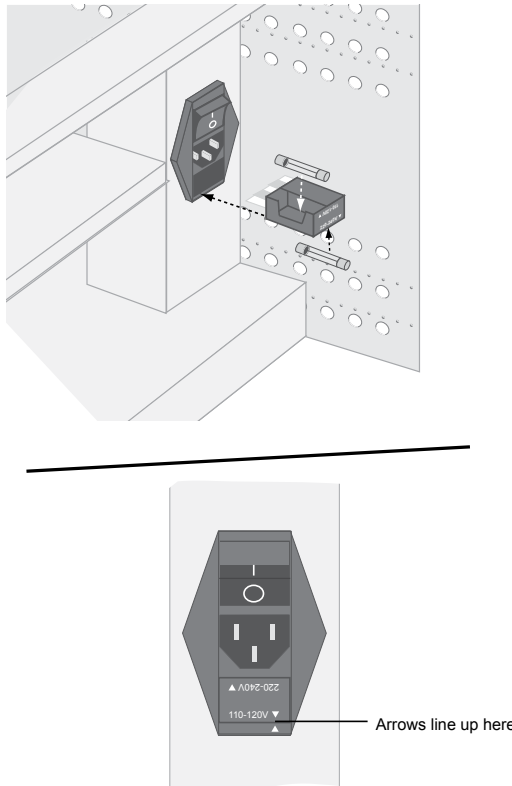

Figure 4-19: Fuse Module Location
2. Insert a flat-bladed screwdriver into the opening at the top of the fuse module (refer to Figure 4-19) and gently pry the fuse module out. Remove the fuse module